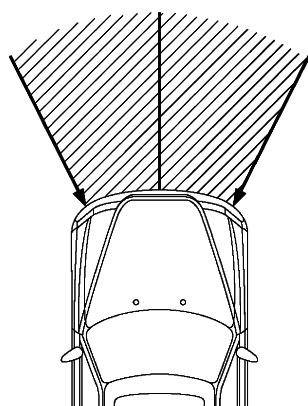

Fig.1
- (1) When the vehicle collides in the hatched area (Fig.1) and shock is larger than a predetermined level, the airbags (driver and front passenger) are activated automatically. The deceleration sensor of the airbag sensor assy center determines the need for ignition in response to collisions within the hatched area based on the signal from the deceleration sensor of the front airbag sensor.